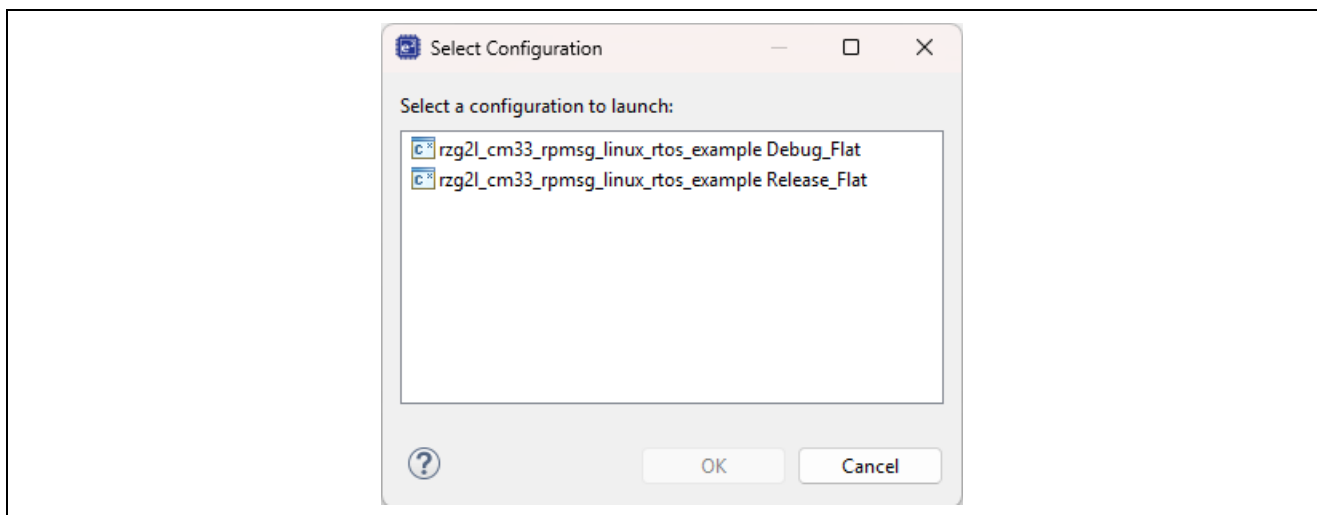

Figure 4-6. Debug Function Launch
2. Choose **rzg2l_cm33_rpmsg_linux_rtos_example Debug_Flat** or **rzg2l_cm33_rpmsg_linux_rtos_example Release_Flat** from the drop-down list indicated in Figure 4-6.